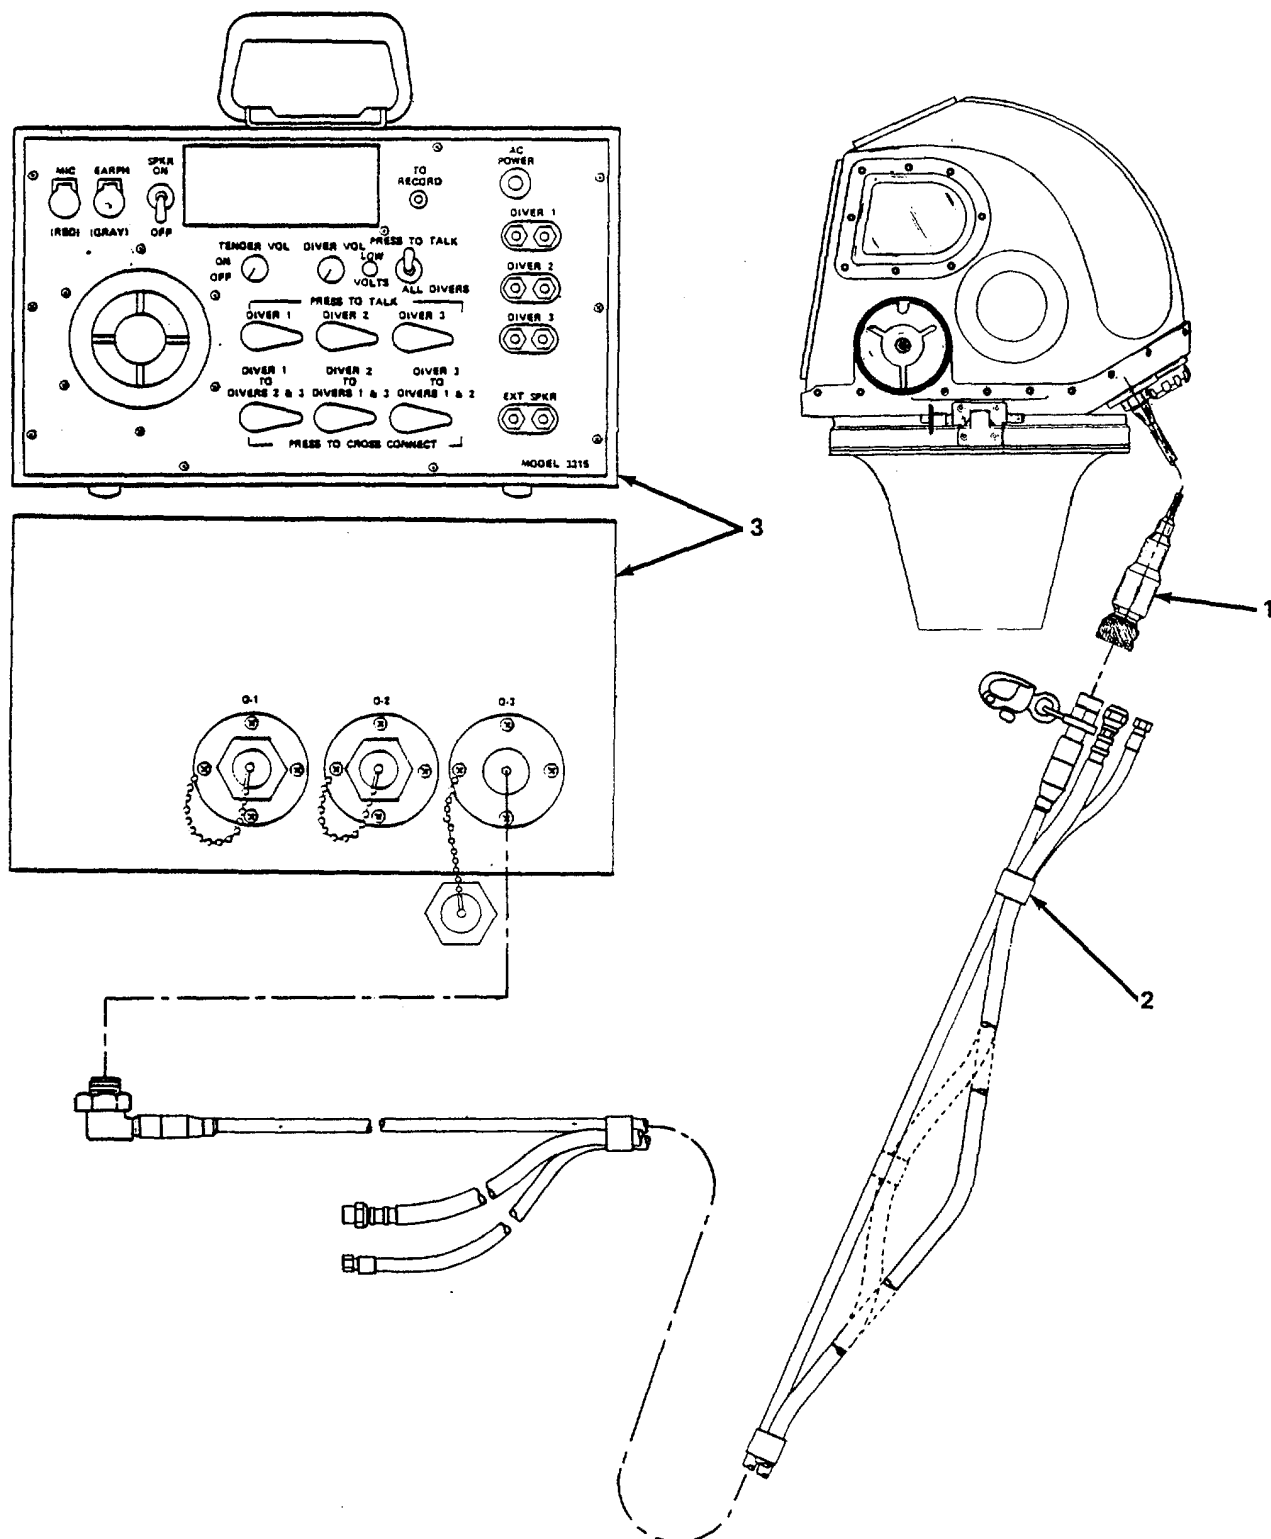

Figure 2-6. Communications Check.
- *(20) Stow all equipment and tools.
- e. Communications Check (figure 2-6).